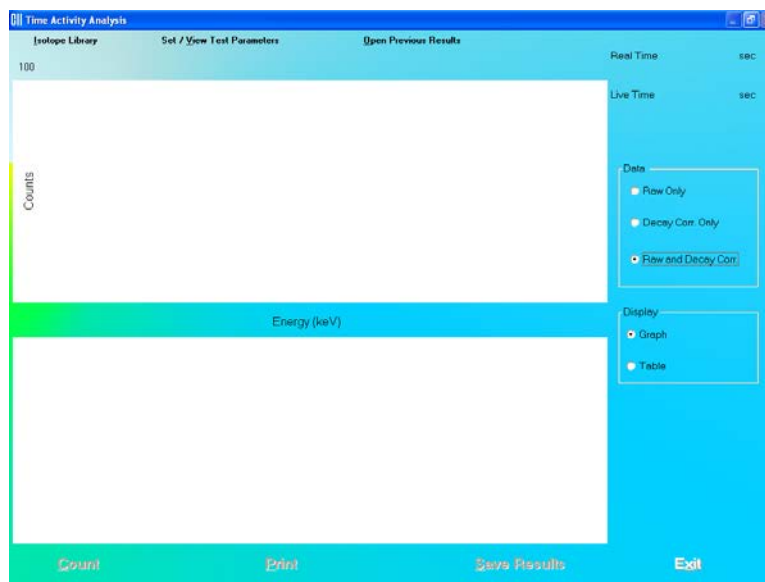
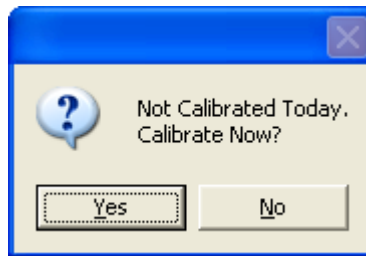
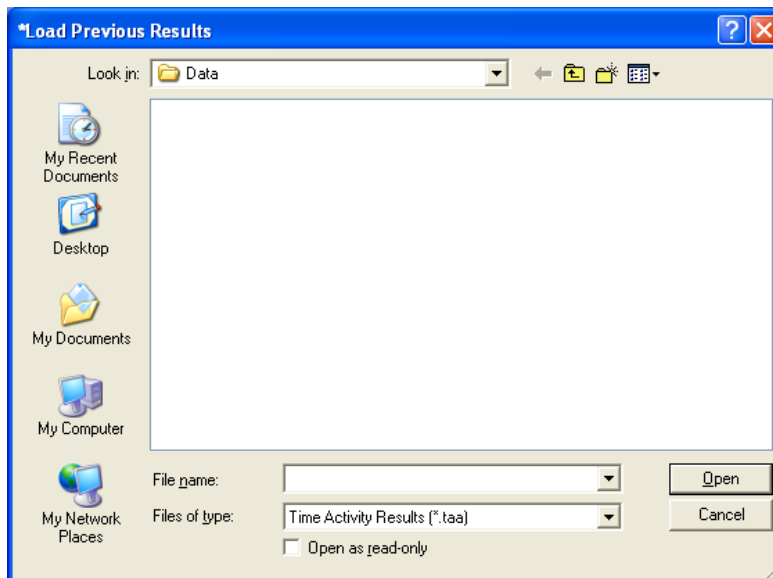

Figure 12-1 Time Activity Analysis screen
Figure 12-5
Figure 12-11
To access this module, click the **Time Activity Analysis** button or press *Alt+T* on the CAPTUS® 3000 Main screen. Figure 12-1 Time Activity Analysis screen will appear. The functions at the bottom of the screen are disabled until the required parameters have been entered. When counting is started, a live spectrum is displayed in the upper half of the screen. The elapsed real and live time is displayed at the upper right of the screen as the counting progresses. Below the displayed time, there are options for viewing and displaying the data.
- vii. Click the **Done** button to save changes or click the **Cancel** button to discard the changes and return to Figure 12-1 Time Activity Analysis screen.
1. Click the **Count** button or press *Alt+C* on Figure 12-1 Time Activity Analysis screen.
Note: If calibration has not been performed, you will be prompted with the screen as shown in Figure 12-5. After the calibration is complete, the program will return to Figure 12-1 Time Activity Analysis screen.
1. Click the **Open Previous Results** button on the menu bar or press **Alt+O** on Figure 12-1 Time Activity Analysis screen. The screen appears as shown in Figure 12-11.